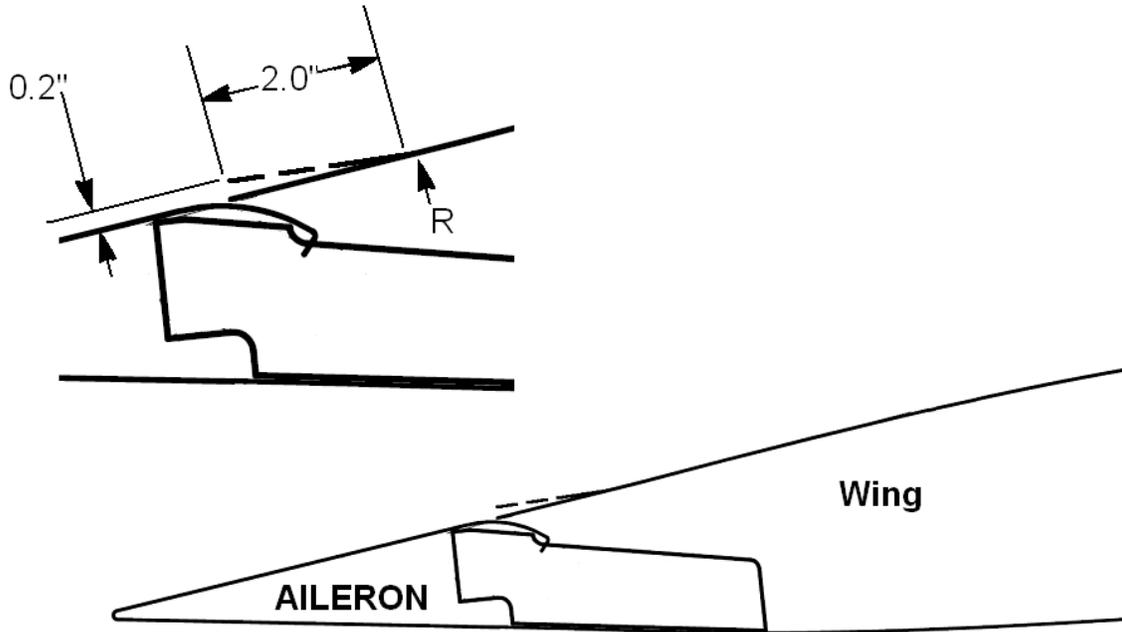

Figure 27-8 Opening "C" Channel of Wing Aileron Closeout.
12. Clamp wing trailing edge uniformly and continuously (see Figure 27-8)